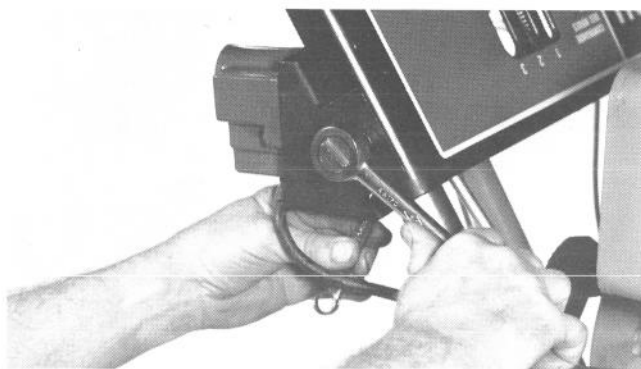

Figure 6
6. Remove lower R.H. mounting capscrew and nut from escutcheon plate, insert capscrew through bracket and install starter control and bracket (Fig. 6).